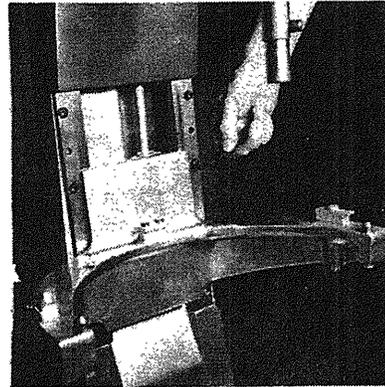

Fig. 6-5
- E. Remove four screws right hand gib (Fig. 6-5) and remove gib and bowl support shim.